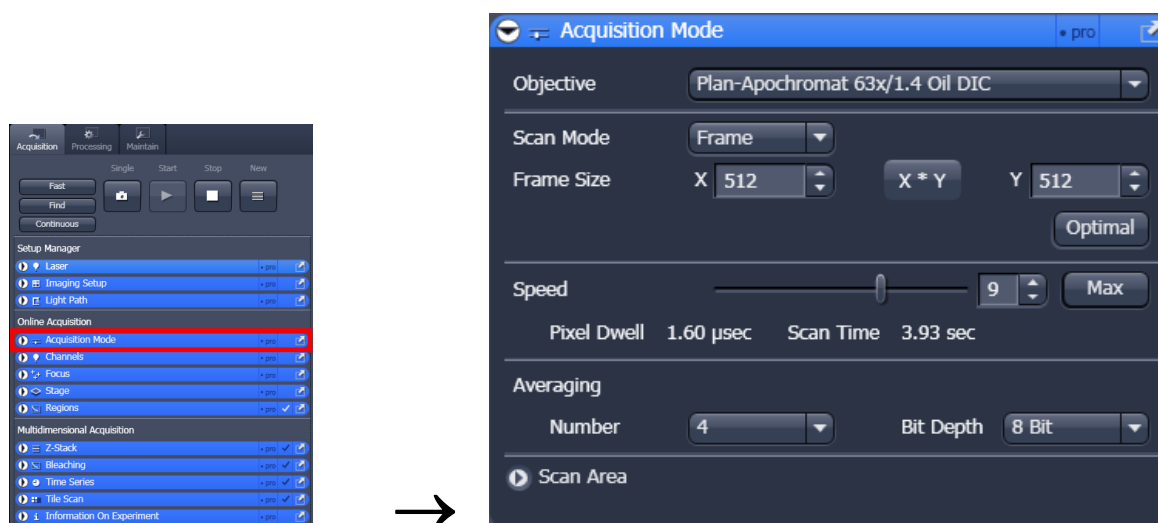

Fig. 18 Acquisition Mode tool
- Select the **Acquisition Mode** tool from the **Left Tool Area** (Fig. 18).
- Use the **Scan Speed** slider in the **Acquisition Mode** tool (Fig. 18) to adjust the scan speed.
- Select the dynamic range 8 or 12 Bit (per pixel) in the **Bit Depth** pull-down in the **Acquisition Mode** tool (Fig. 18).